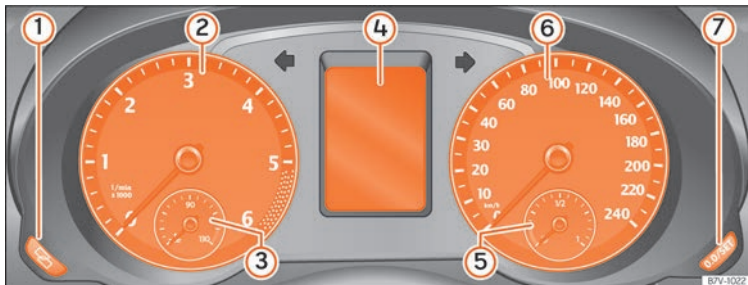

Fig. 75 Instrument panel, on dash panel.
Details of the instruments »» **Fig. 75:**
- Press button **0.0/SET** »» Fig. 75 ⑦ to reset the trip recorder to 0.